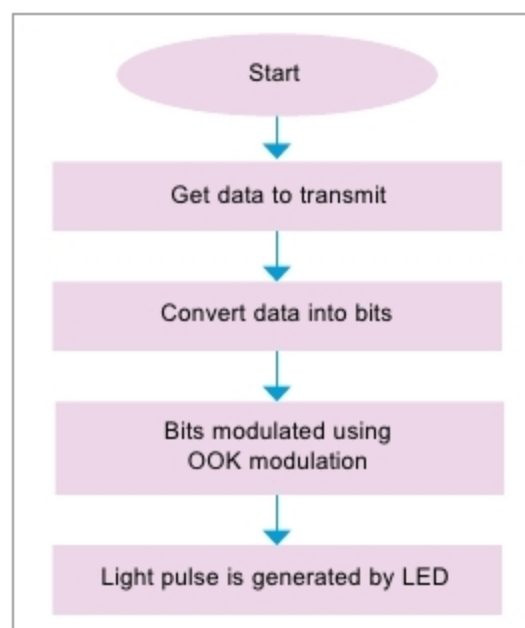

Fig. 2: Transmission process block diagram
**Transmission process block diagram.** Block diagram in Fig. 2 shows the process of the